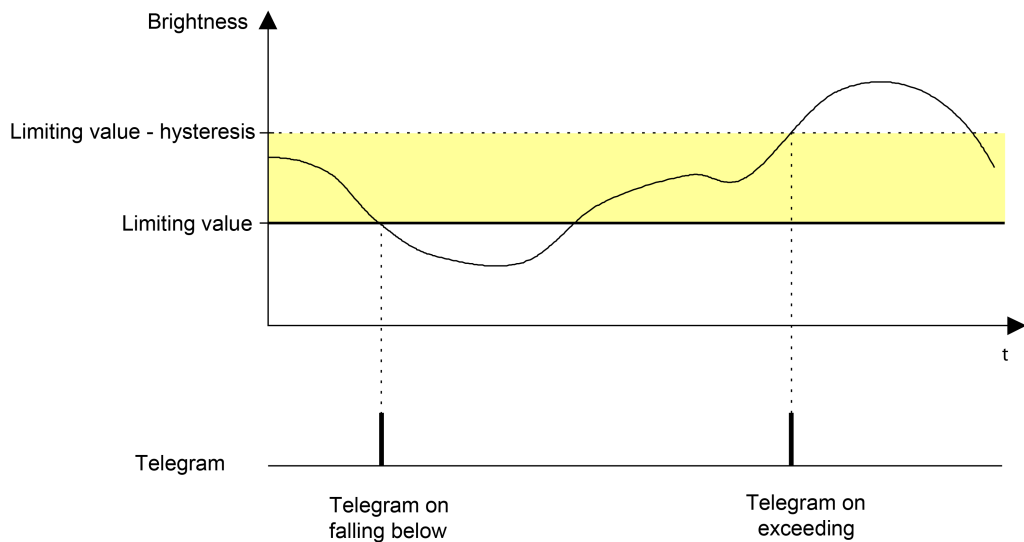

Figure 65: Example 2 of the limiting value definition
2. Brightness limiting value = Lower threshold (see figure 65)